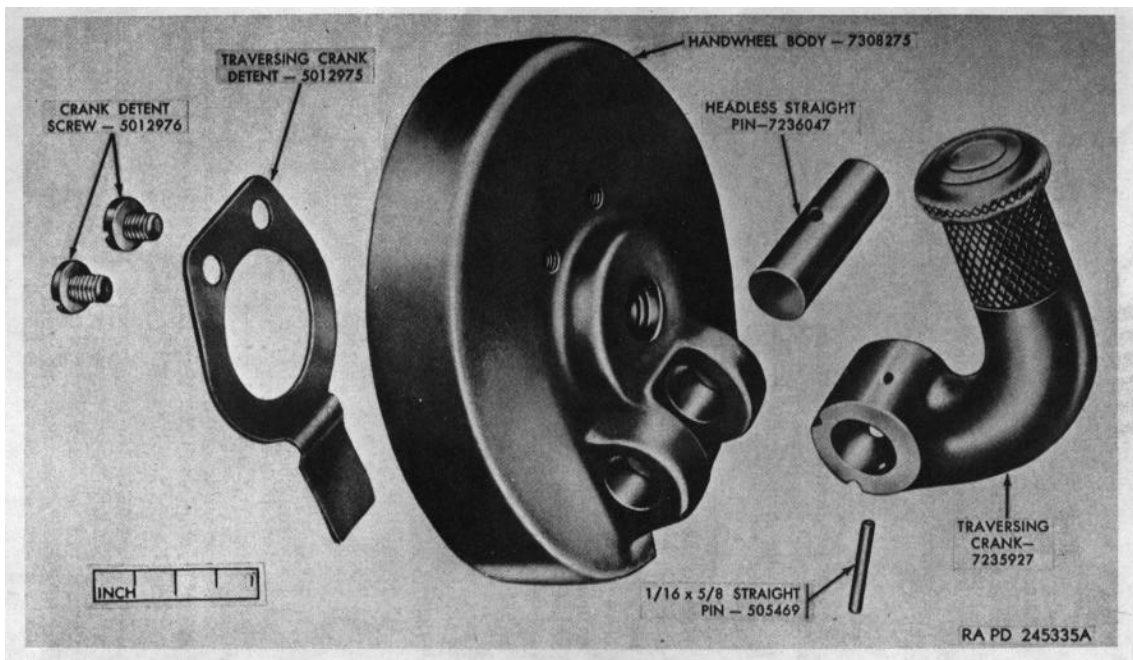

Figure 48. Traversing handwheel assembly 7308276---81-mm mortar mount M23A1---exploded view.
g. Remove the crank detent screws and traversing crank detent (fig. 48). Drive out straight pin that retains the crank pin and remove the crank pin and traversing crank assembly from the handwheel body (fig. 48).
a. Secure traversing crank detent with two crank detent screws (fig. 48). Assemble traversing crank assembly to the handwheel body by means of the crank pin and drive in 1/16 x 5/8 straight pin (fig. 48).